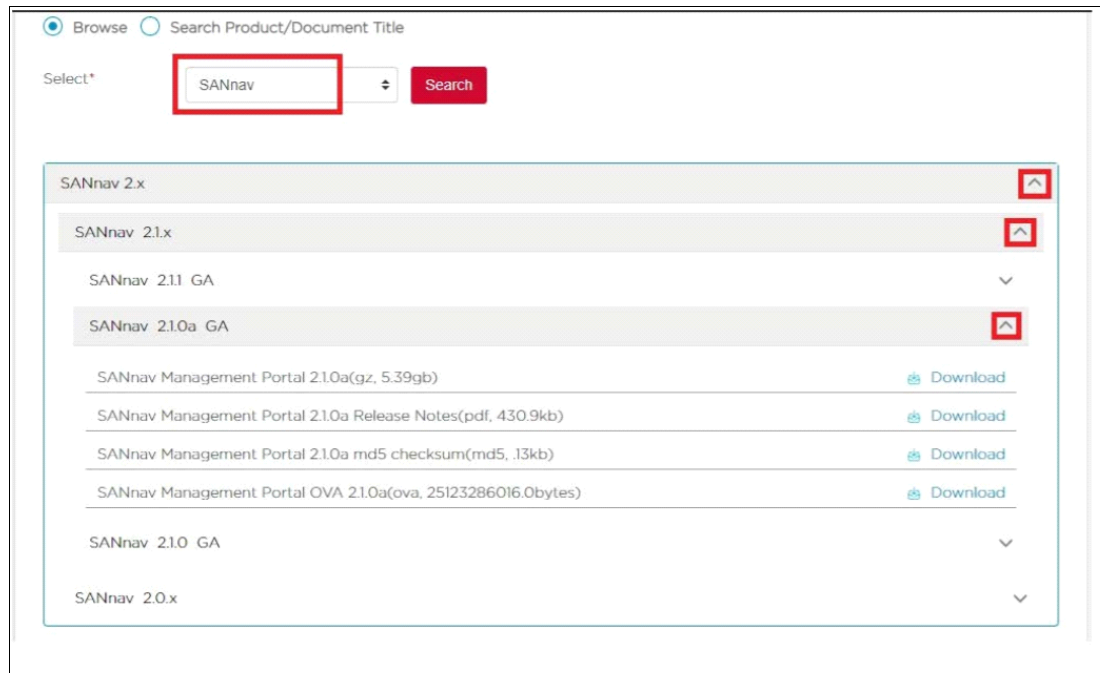

Figure 11-18 Selecting SANnav in the Software Downloads tab
- If you click **Software Downloads**, click **SANnav** in the **Select** list, and then click the carrots at the right to go to the option that you need, as shown in Figure 11-18.